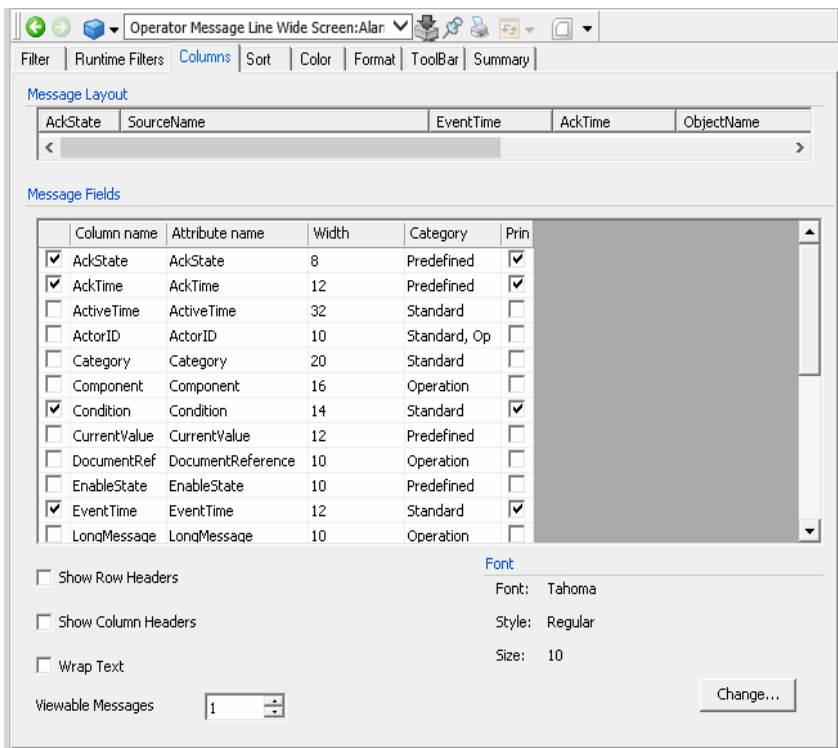

Figure 36. Common Operator Message Line Wide-Screen - Alarm and Event List Configuration
- 7. Configure the Operator Message Line by opening the **Alarm and Event List Configuration** aspect (located in the Library Structure below the Multi Screen Configurations object) and make your settings. See Figure 36.
3. Configure the Operator Message Line by opening the Alarm and Event List Configuration aspect (located in the Library Structure below the Multi Screen Configurations object) and make your settings. See Figure 36.